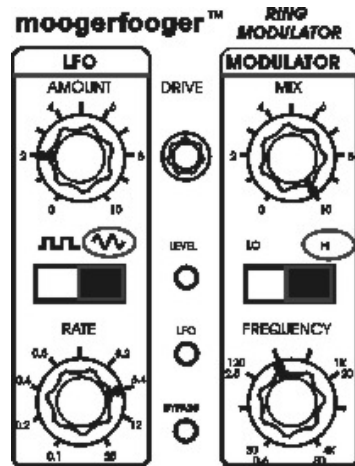

Figure 2 - Basic settings for becoming familiar with your MF-102.
7. Now set the MF-102 panel controls as follows (See Figure 2):